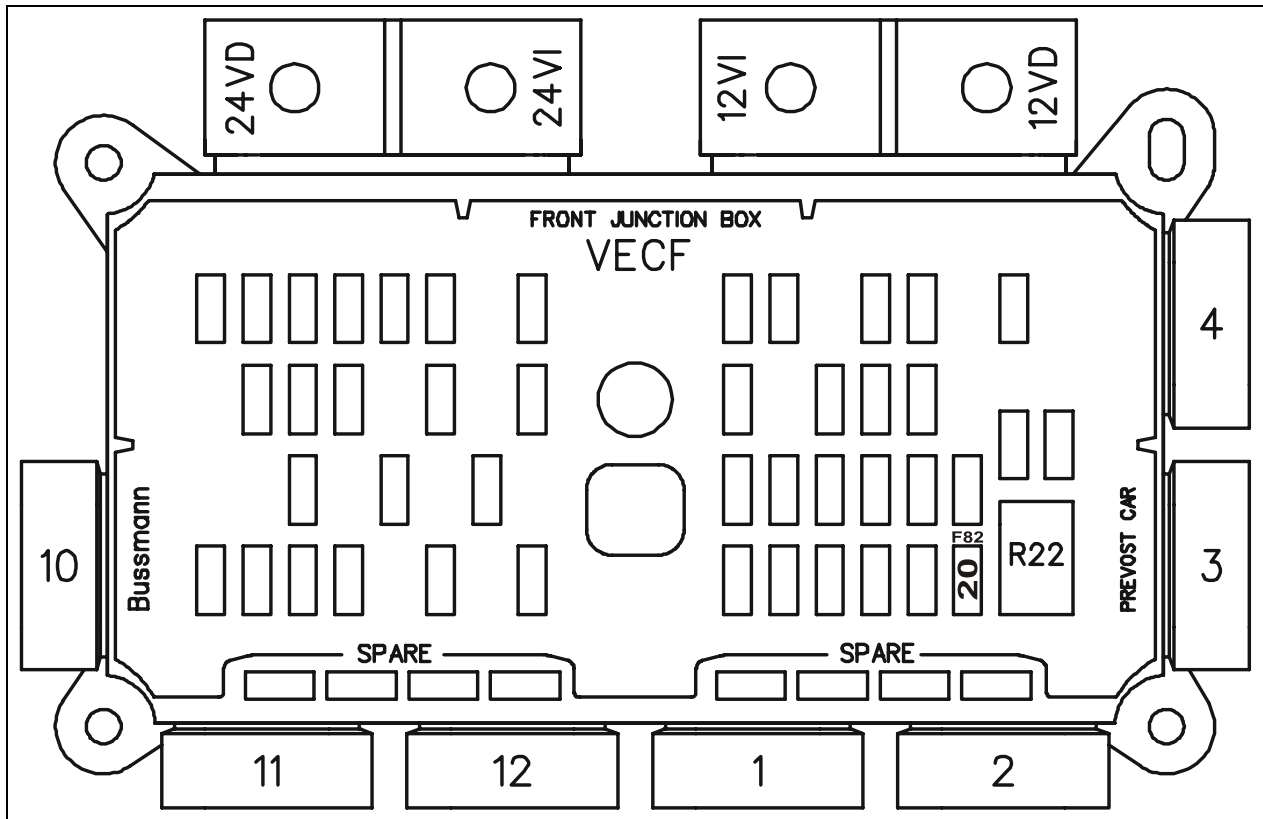

FIGURE 4 : VECF
- Remove VECF cover then replace 15A fuse F82 with 20A fuse (563282). Mark up using permanent marker or self-adhesive sticker that new fuse must be 20 A (Refer to figure 4).